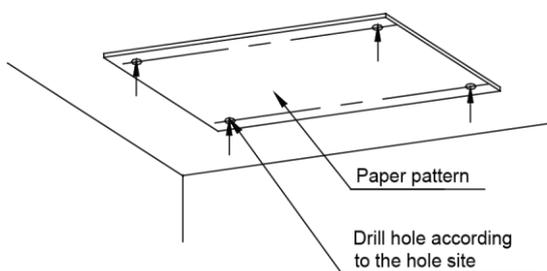
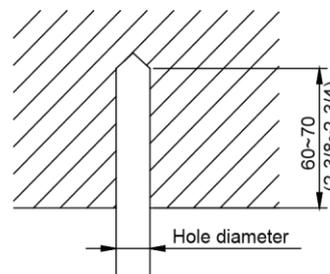

Fig. 4.1.2
Fig. 4.1.3
- 1) Stick the reference cardboard on the installation position; drill 4 holes according to the hole site on the cardboard as shown in fig. 4.1.2; diameter of drilling hole is according to the diameter of expansion bolt and the depth is 60-70mm (2-3/8~2-3/4 in.), as shown in fig. 4.1.3.